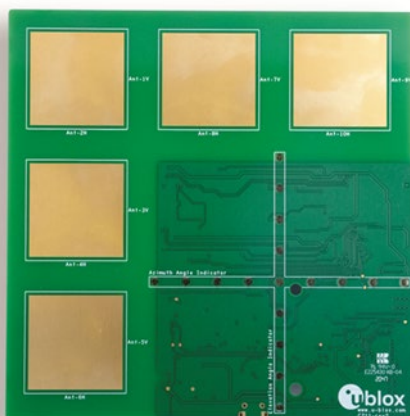

Figure 15: Tag movement
In the events reported above, the beacon is moving from one side of the anchor to the other as angle 1, which is given as the third parameter in the event (shown in bold). The beacon moves from a positive value (20) to a negative value (-10). The movement of the tag for these events is shown in Figure 15.